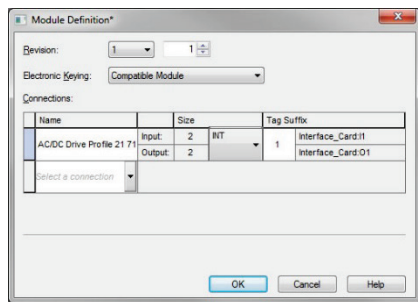

Figure 50: AOP AC/DC Drive Profile Module Definition
- 3) Configure the AC/DC Drive Profile connection. Refer to Figure 50.